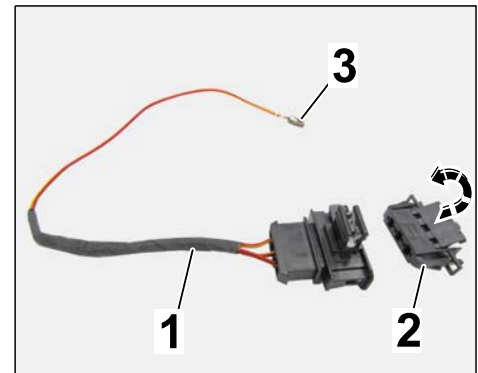

Figure 31
2.6.1 Disconnect plug connection (3-pin) of adapter cable and release/open plug socket (3-pin) (\Rightarrow *Figure 31*).
- 3 (2)** – Line RD/YE; 1.0² with socket \Rightarrow fuse strip A, chamber 3A